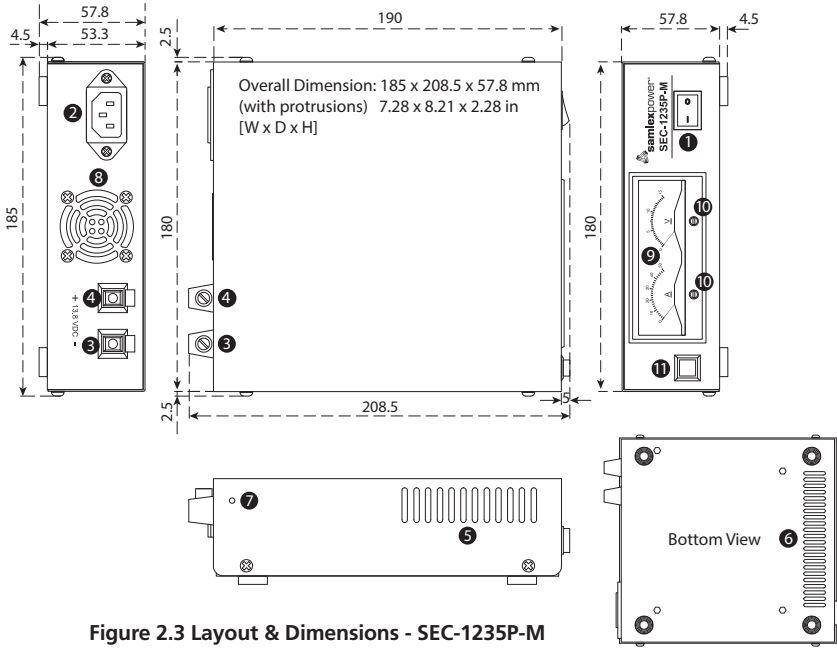

Figure 2.3 Layout & Dimensions - SEC-1235P-M
LEGEND for Fig 2.3
7. Lanced tab that slides into corresponding slot in the bottom housing. (There is one more lanced tab on the other corresponding side of the top cover). This ensures that the top cover fits properly only in one orientation i.e. ventilation slots(5) positioned away from the fan discharge openings(8).
- NOTES:** 1. The top cover will fit properly only when the 2 lanced tabs (7, Fig 2.3) are oriented towards the DC output terminals (3) and (4).
SEC-1235P-M has Voltmeter and Ammeter (9, Fig 2.3). If necessary, use adjusting screws (10, Fig 2.3) to zeroise the needles (do this with the unit in OFF condition). If required, the back light of the meter can be switched ON using ON/OFF Push Button for the back light (11, Fig 2.3).